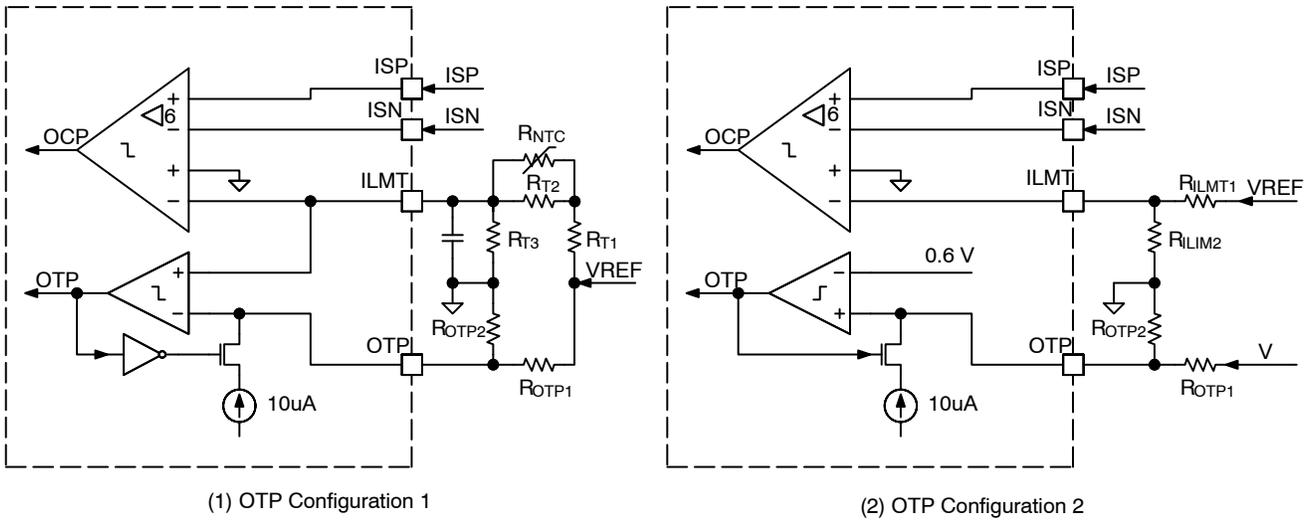

Figure 18. Over-Current Protection and Over-Temperature Protection
The over-current threshold can be externally programmed at the ILIM pin. As shown in Figure 18 (1), a NTC resistor RNTC can be employed for temperature compensated over current protection. The peak current limit per phase can be calculated by
If no temperature compensation is needed, as shown in Figure 18 (2), the peak current limit per phase can be simply set by
With OTP Configuration 1, as shown in Figure 18 (1), the NTC resistor RNTC senses the hot-spot temperature and changes the voltage at ILMT pin. Both over-temperature threshold and hysteresis are externally programmed at OTP pin by a resistor divider. Once the voltage at ILMT pin is higher than the voltage at OTP pin, the NCP81233 turns off both high-side MOSFETs and low-side MOSFETs with all PWM outputs in high impedance and operates in either a hiccup mode or ends in latch-off, which is programmable at MODE1 pin as shown in Table 11. The controller will have a normal start up after a hiccup interval in condition that the temperature drops below the OTP reset threshold. To restart the device after latch-off OTP, the system needs to have
With OTP Configuration 2, as shown in Figure 18 (2), the NCP81233 receives an external signal VT linearly representing temperature and compares to an internal 0.6 V reference voltage. If the voltage is over the threshold OTP happens. The OTP assertion threshold VOTP and reset threshold VOTP\_RST in this configuration can be obtained by